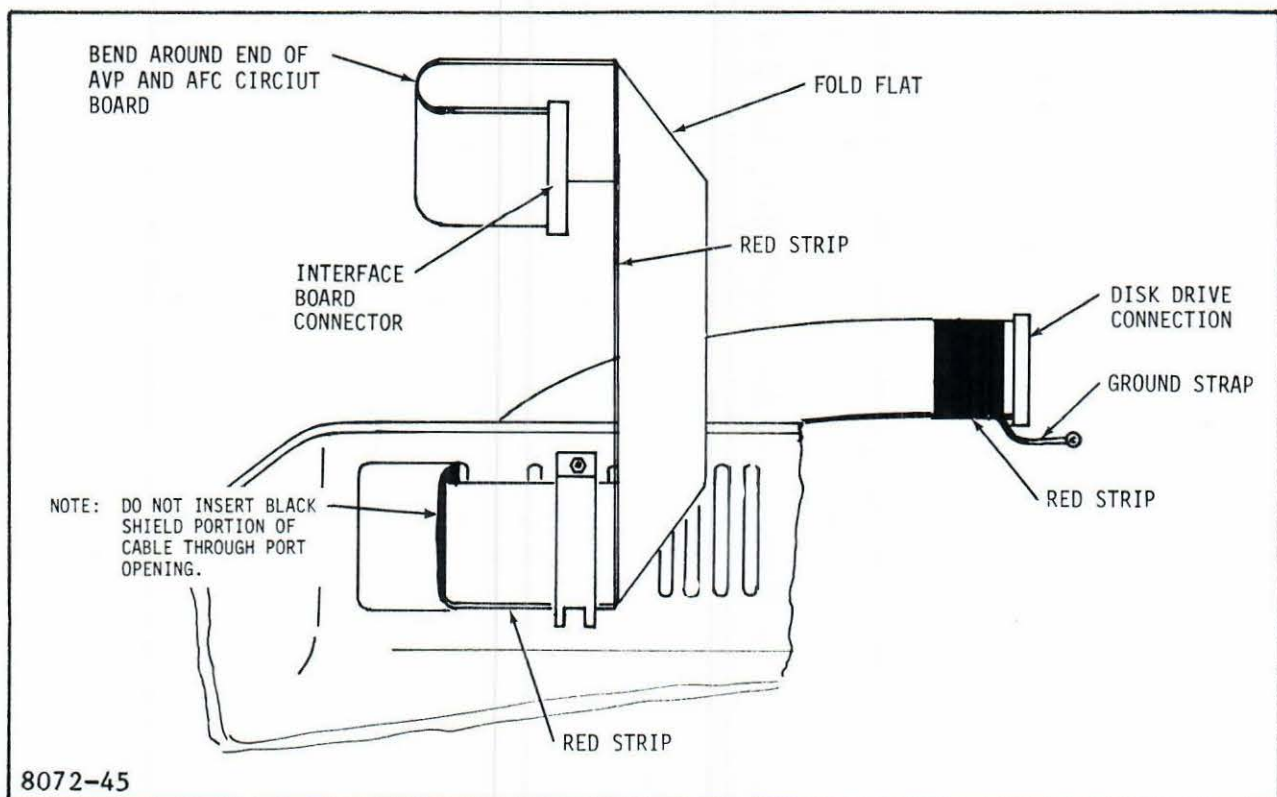

Figure 7-6. Cable Routing and Fold
7. Insert the unshielded side of the flat ribbon cable through the AUX port hole in the cabinet. When inserting the ribbon cable ensure that the red strip side of the cable is down (bottom side). See figure 7-6.
8. Fold and route the ribbon cable as shown in figure 7-6. The red strip should be on the top side where connection is made to the interface board.